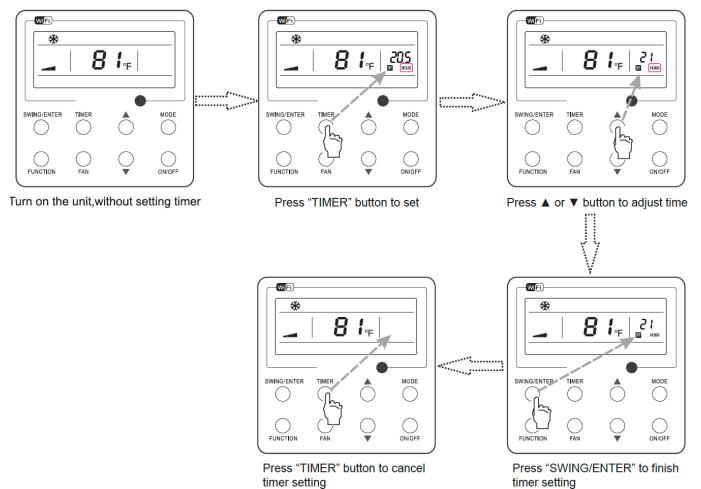

Fig. 8 Timer off Setting under the “ON” State of the Unit
- Timer OFF setting when the unit is turned on is shown as Fig.8.